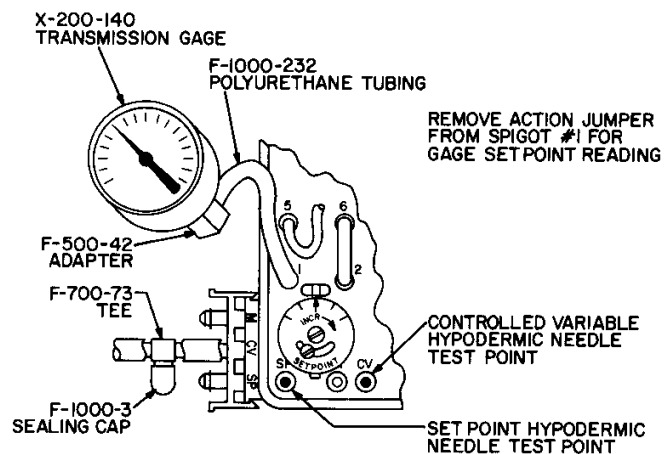

Fig. 8: Methods for Checking Pressure Readings
An X-200-140 Hypodermic Needle Test Probe and appropriate gage (see Fig. 7, ordered separately) is also available for troubleshooting, for test point readings, or for final set point adjustments under actual job conditions. **Note: Figure 8 illustrates an alternative method of checking pressure readings on the T-5800 where use of a hypodermic needle test probe is prohibited.**
2. Take a set point pressure reading using the appropriate method and gage, as illustrated in Fig. 8. Adjust the local set point dial or the remote adjuster (manual or automatic) until the pressure matches the value noted in Step 1. Remove the pressure reading device and reconnect the jumper (if applicable).
3. Take a set point pressure reading using the appropriate method and gage, as illustrated in Fig. 8. Adjust the local set point dial or the remote adjuster (manual or automatic) until the pressure matches the value noted in Step 2. Remove the pressure reading device and reconnect the jumper (if applicable).